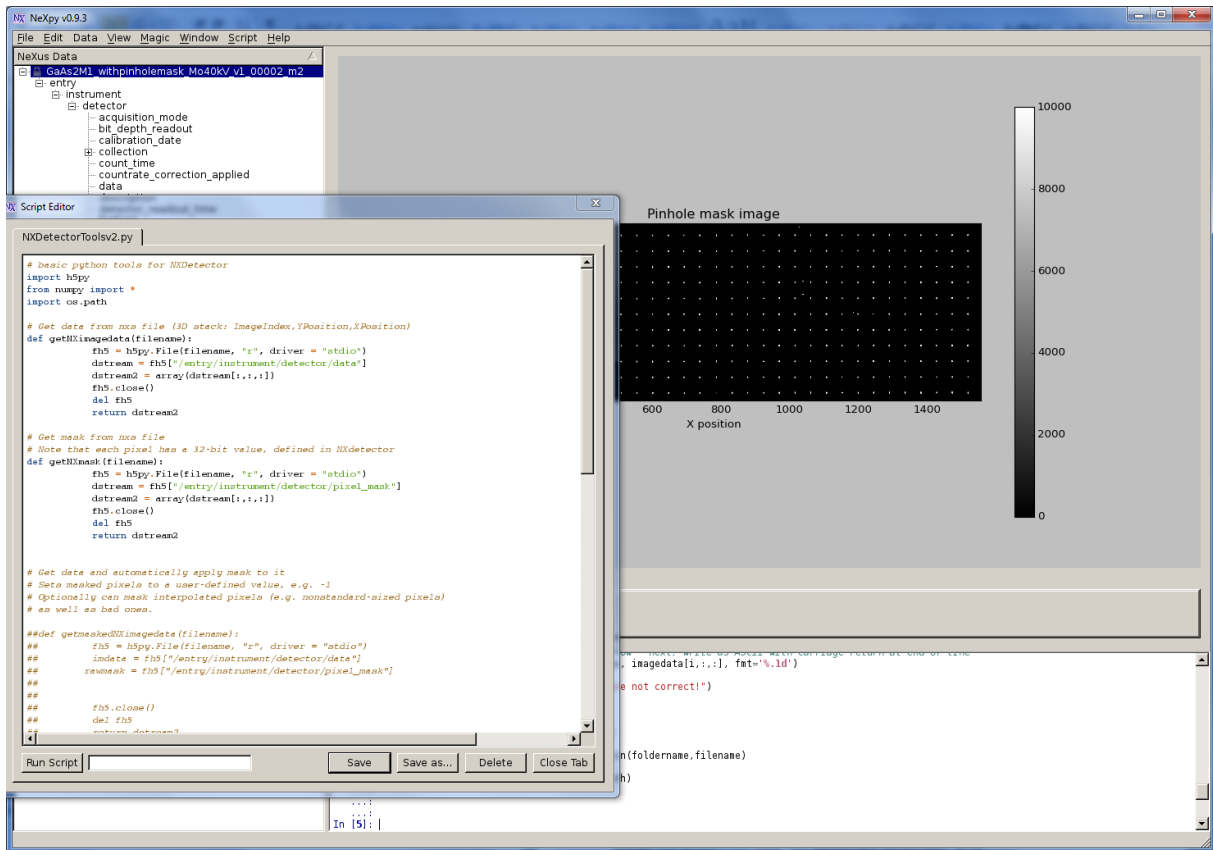

Figure 10: Example of running a script
- Scripts can be loaded and run using *Script* → *Open Script* as shown in Figure 10.